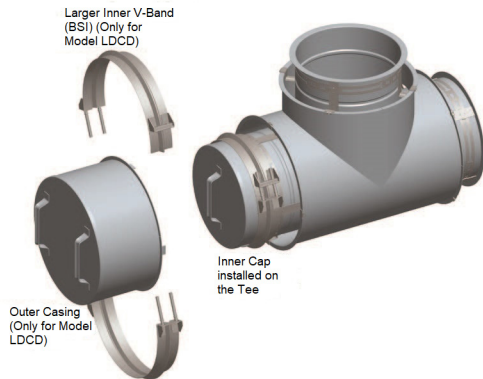

Figure 40a: Step 1 (only for Horizontal installation) Installation of the TC
STEP 1- (only for horizontal installation): Add Viton® Caulking over the Viton O-ring Gasket. See **Figure 40a**.
NOTE: Be sure the handle of the Cap faces outward as shown. See **Figure 40a or 40b**.